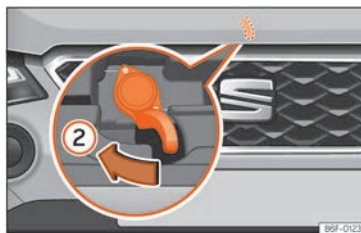

Fig. 191 Lever under the bonnet.
- To lift the bonnet, press towards the left on the lever located under the bonnet, in the centre » **Fig. 191 2**. The arrester hooks are released.